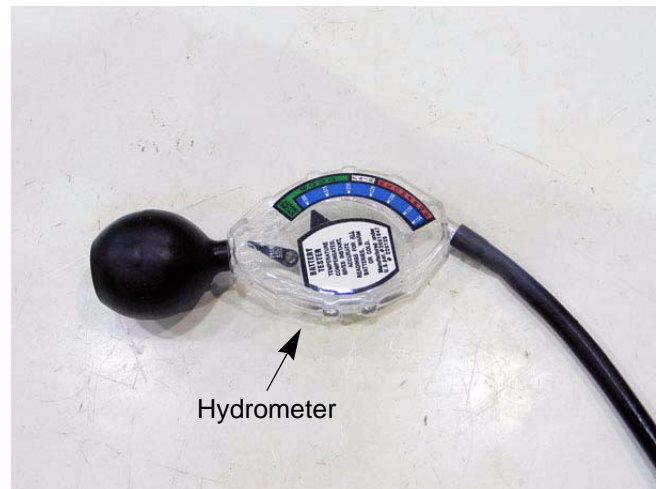

Figure 7.36
3. Hydrometer test (non-sealed batteries only) See Figure 7.36.